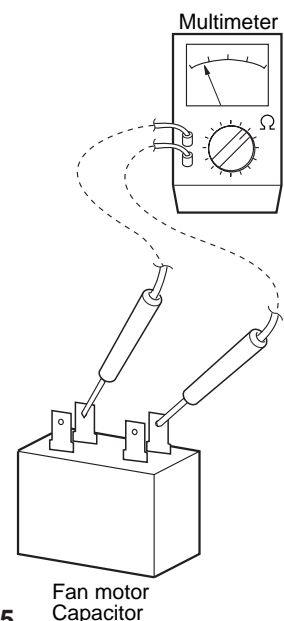

Fig. 45
- ④ **Outdoor fan motor (FMO) Outdoor unit** *Measure the coil resistance.
- Measure the resistance in the same manner as explained above ③.
- ⑤ **Fan motor capacitor Both in indoor and outdoor unit**
- Remove the lead wires from the capacitor terminals, and then place a probe on the capacitor terminals as shown in **Fig. 45**. Observe the deflection of the pointer, setting the resistance measuring range of the multimeter to the maximum value.